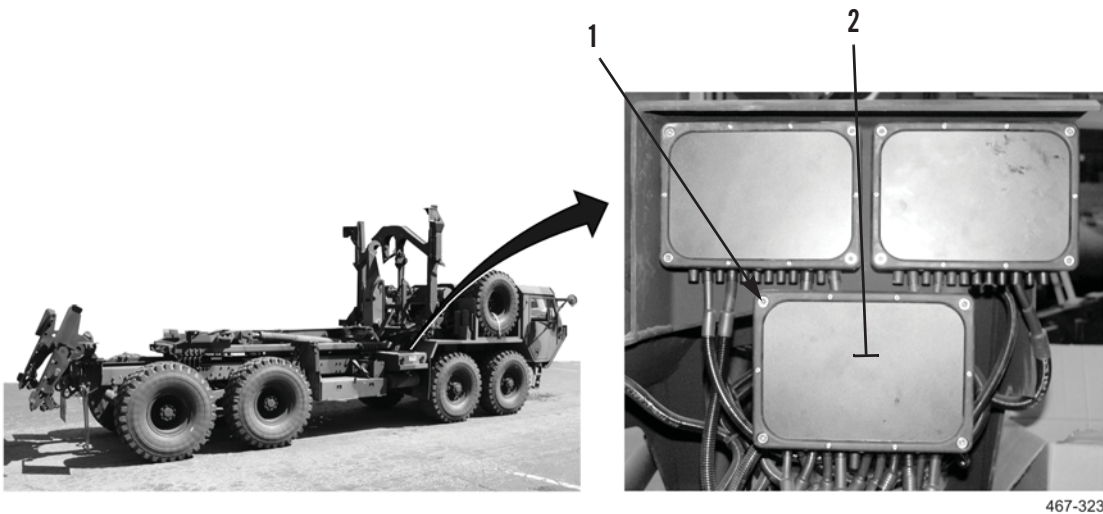

Figure 10. Guide Position Calibration.
22. Install cover (Figure 10, Item 2) on Space 4000 ST box and tighten four screws (Figure 10, Item 1).